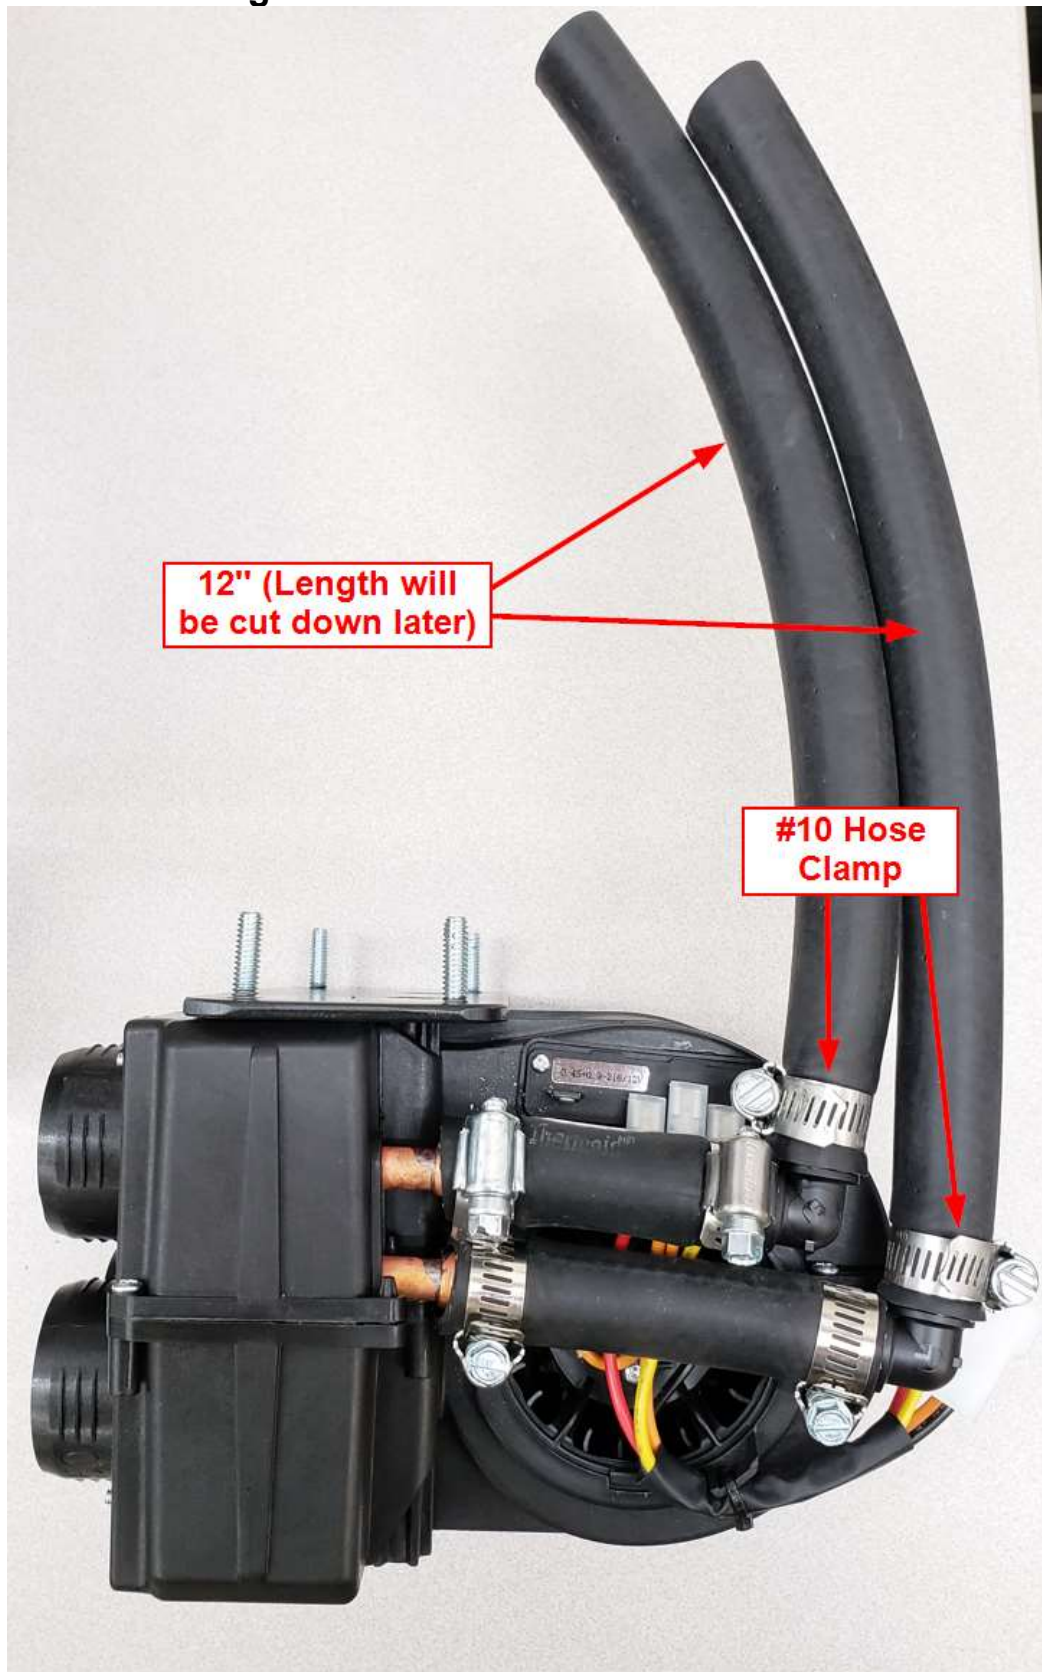

Figure 16
- f. Cut (2) 12" pieces of 5/8" Heater Hose and attach the hoses to the 90 Degree Fittings as shown in Figure 16. Secure using #10 Hose Clamps.